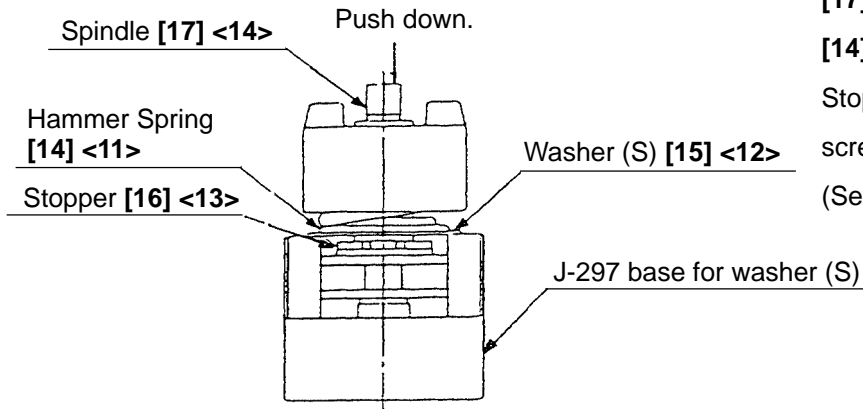

Fig. 9
(3) Disassembly of the hammer assembly
Mount the hammer assembly onto the J-297 base for washer (S). With a hand press, push down the top of the Spindle [17] <14> to compress the Hammer Spring [14] <11>. In this position, remove the Stopper [16] <13> with a flat-blade screwdriver, then release the hand press. (See Fig. 9.)